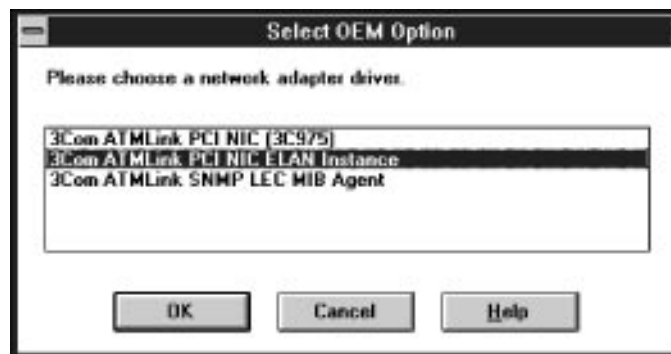

Figure 3-12 Select OEM Option Window
- 3 In the Select OEM Option window, select *3Com ATMLink PCI NIC ELAN Instance*, as shown in Figure 3-12.